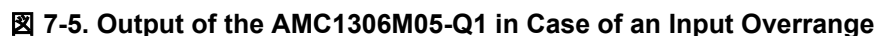

**Figure 7-3. OOK-Based Modulation Scheme**
The AMC1306M05-Q1 uses an on-off keying (OOK) modulation scheme, as shown in Figure 7-3, to transmit the modulator output bitstream across the SiO2-based isolation barrier. The transmit driver (TX) shown in the Functional Block Diagram transmits an internally generated, high-frequency carrier across the isolation barrier to represent a digital *one* and does not send a signal to represent a digital *zero*. The nominal frequency of the carrier used inside the AMC1306M05-Q1 is 480 MHz.